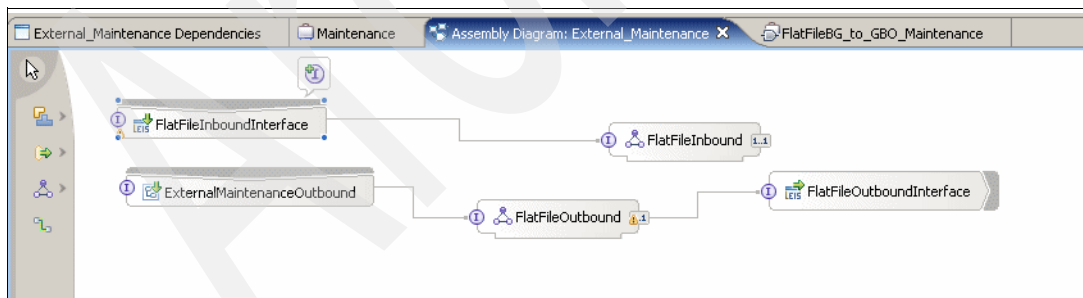

Figure 3-26 Assembly diagram
3. Save all changes (Figure 3-26).